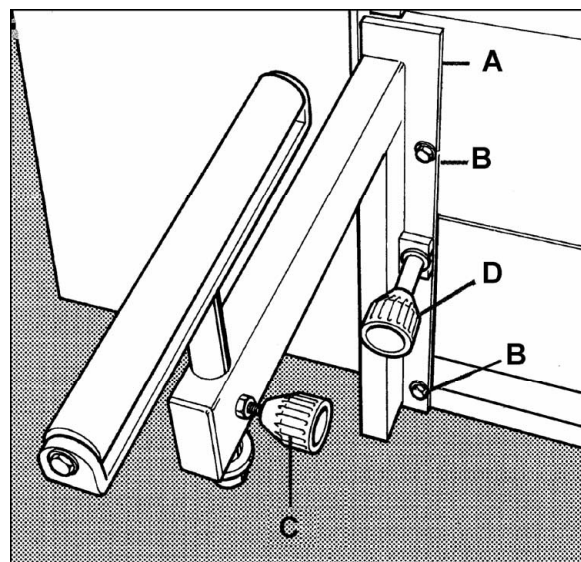

Figure 16
1. Mount the hinge plate (A, Figure 16) of the roller support to the frame using the two bolts (B, Figure 16).
2. The roller must be adjusted to the height of the saw table by loosening the knob (C, Figure 16).
3. The entire support can be swung aside by loosening lower knob (D, Figure 16)